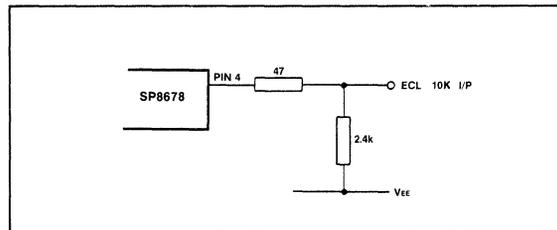

Fig.7 SP8678 to ECL 10K interface
- The emitter follower output includes an internal 3k pulldown resistor and is compatible with ECL II, but can be interfaced with ECL III/10K by the inclusion of two resistors. See Fig. 7.